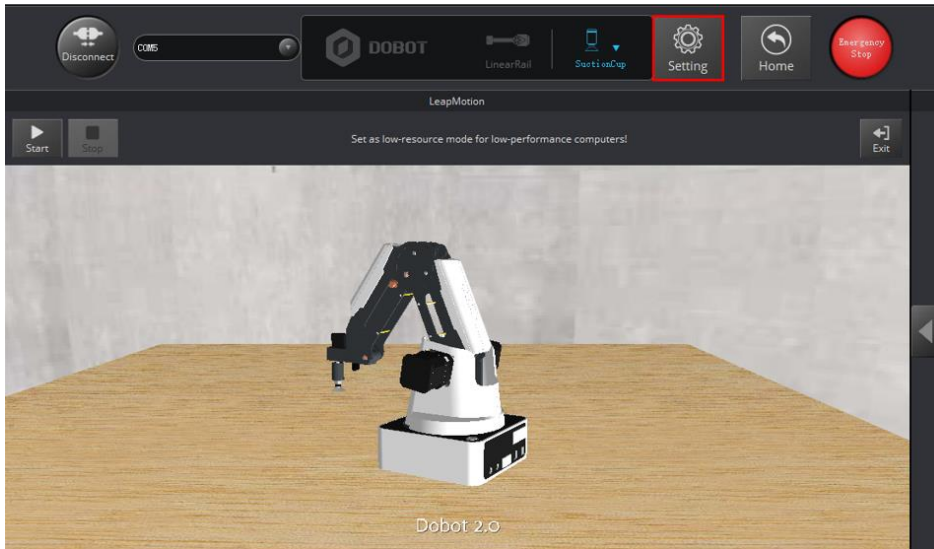

Figure 5.110 Click Setting
Step 3 Click **Setting** on the **DobotStudio** page, as shown in Figure 5.110.